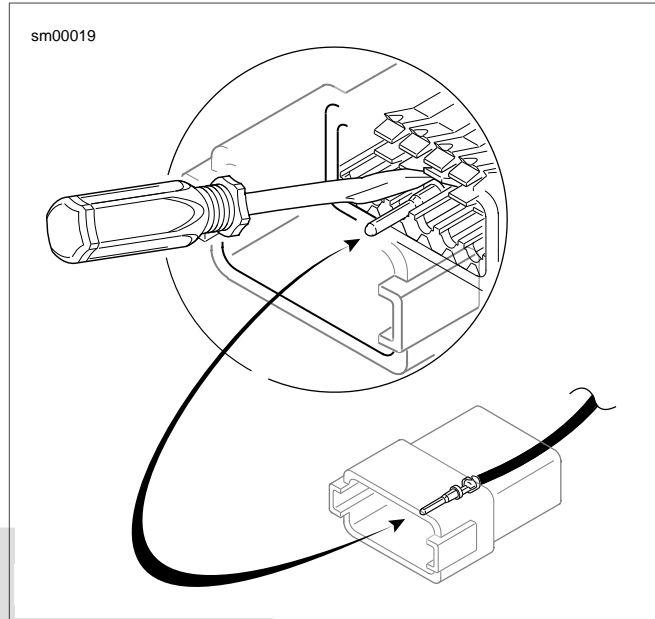

Figure A-19. Deutsch Connector: Depress Terminal Latch and Back Out Pin
- See Figure A-19. Use a pick or small screwdriver to depress terminal latches inside socket housing and back out sockets through holes in rear wire seal.